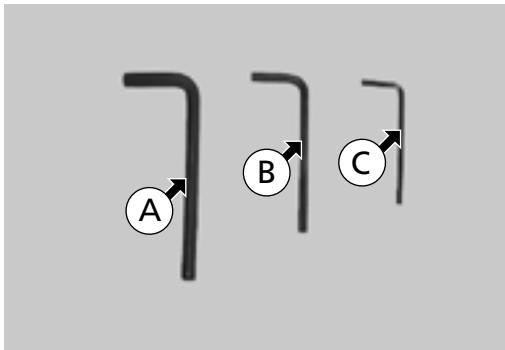

Fig. 32
Use tool (A), 6 mm Allen (Fig. 32).
Elements of Fig. 32
Use 4 mm Allen tool (B), (Fig. 32).